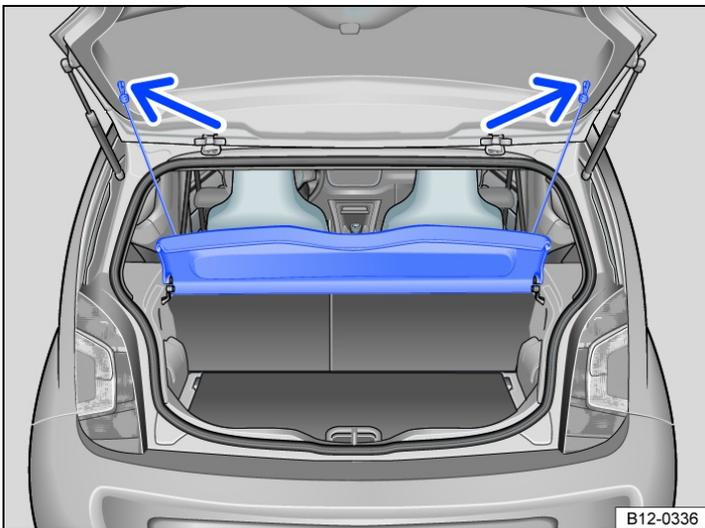

Fig. 2 In the luggage compartment: removing and installing the luggage compartment cover.
- Unhook the retaining straps from the boot lid → Fig. 2 (arrows).